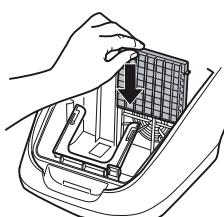

Fig. 26
7. Firmly push the freshly equipped filter holder, correctly positioned, from above into its receptacle (Fig. 26).